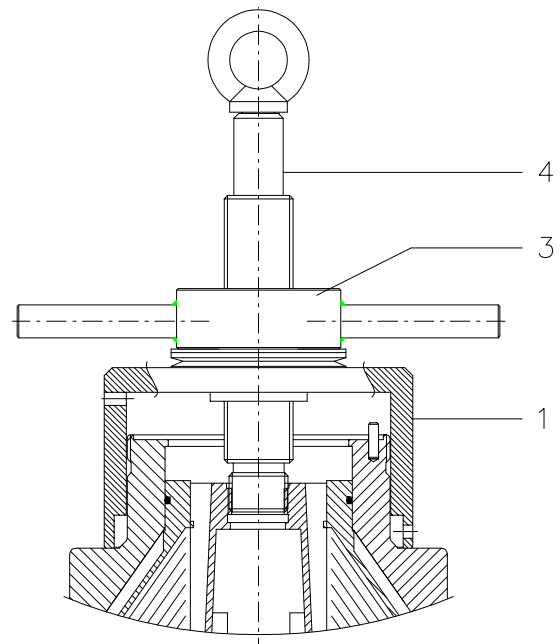
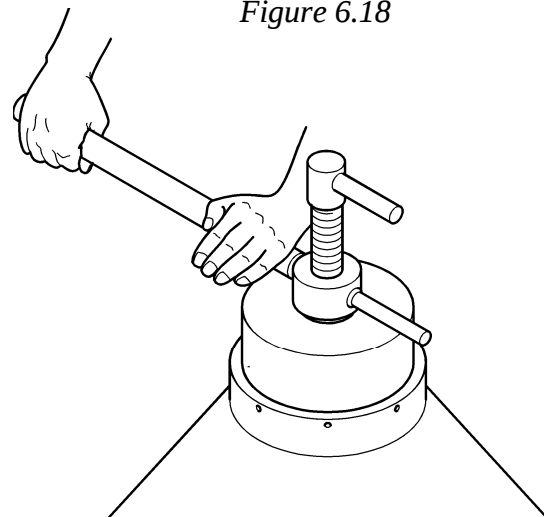

Figure 6.18
Figure 6.19
14) By the suitable spanner (09.060.0 ÷ 06.090.0), compress the **disks stack** (Fig. 6.18). To make this, perform the operations mentioned below.
- Lay bell (1) on bowl hood.
- Screw tight threaded rod (4) on the distributor.
- By using extension pipe (09.020.0) screw nut (3) as much as possible and anyhow until the bowl hood completely lay on the corresponding seat of the bowl body (fig. 6.19).
- 17) Remove the spanner for disks set compression. This spanner also allows to check if disks compression is correct. Infact one manual turn of nut (3 - Fig. 6.18), by means of extension pipe, must cause a “sensation of toil”. If after one turn it is still hard to loosen the spanner it means that one or two more disks are still necessary.
- 7) By the spanners (09.060.0 ÷ 09.090.0), compress the **disks stack** (Fig. 6.18). To make this, perform the above mentioned operations.
- By using extension pipe (09.020.0) screw nut (3) as much as possible and anyhow until the bowl hood completely lay on the corresponding seat of the bowl body.
- When the nut (3) lay on the flange (1), one turn is enough to slightly lift the distributor from bowl body.